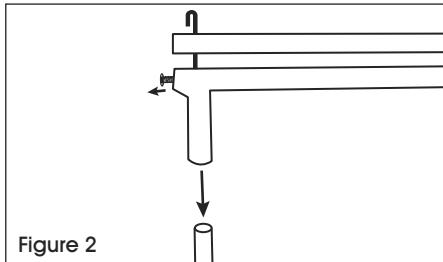

Figure 2
2. Loosen outside screws on feed clamp (C), and slide feed clamp into top leg assembly tubes (A and B). Tighten screws to secure. (See Figure 2)